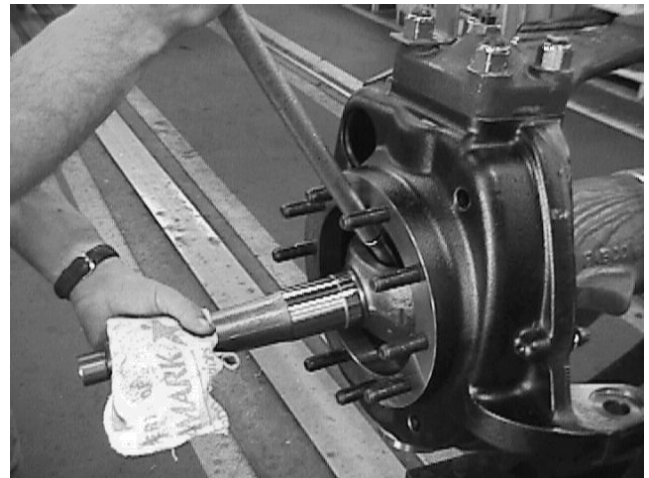
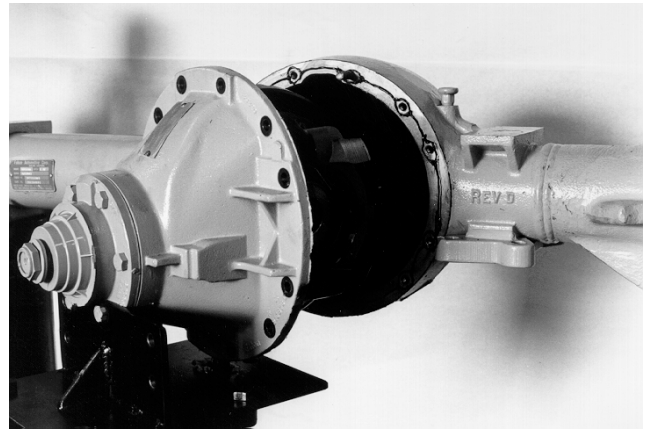

Figure 17
Figure 22
9. Insert the tip of the axle shaft carefully through the inner axle seals and bushing. Continue to push the assembly in until it can be felt to contact the differential. By using a bar as a lever, the tip of the axle shaft inside the housing can be raised sufficiently to allow it to engage with the differential splines. See Figure 17.
6. Installation is the reverse of removal. Apply a bead of Loctite #515 or equivalent around the differential carrier mounting face on the axle housing. See Figure 22. Coat the mounting bolt threads as well to avoid seepage. Use a bar as depicted in Figure 17 to ease axle shaft installation. See Section 9.0 for correct torque values.